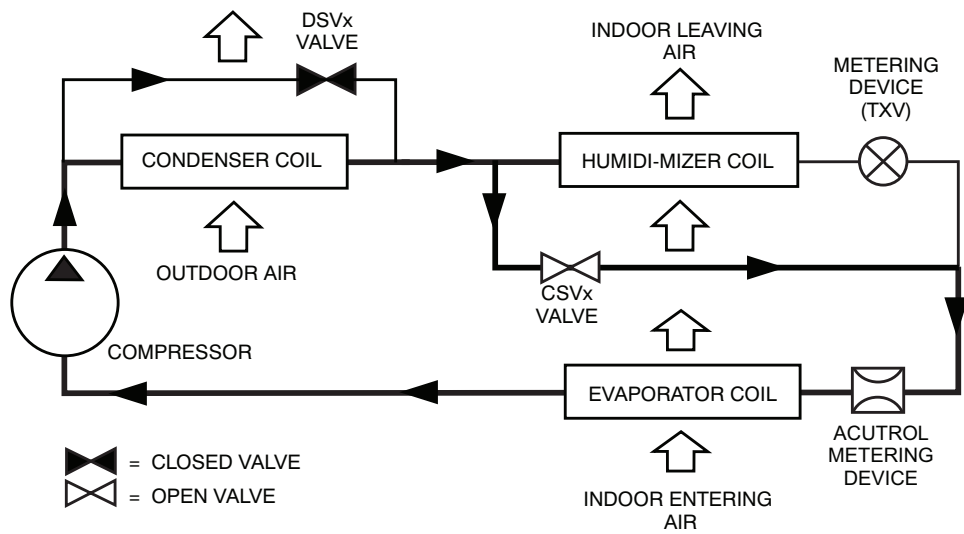

Fig. 74 - Normal Cooling Mode (Sizes 04 / 07 - Type 1) - Humidi-MiZer® System with Single Stage Cooling
Normal Cooling Mode: When there is only a single cooling demand with thermostat Y1 calling, the single circuit will operate in Normal Cooling Mode. The Cooling Liquid Valve (CSV) is Normally Open (NO) and energized. The Reheat Discharge Valve, DSV, is Normally Closed (NC) and remains closed during the Cooling Mode. See Fig. 74.
Normal Cooling Mode: When there is only a cooling demand (Thermostat Y1 alone or with Y2), one or both circuits will operate in Normal Cooling Mode. The CSV1 and CSV2 (on size 14, CLV1 and CLV2) valves are de-energized and open allowing liquid to flow around the Humidi-MiZer coil and directly to the unit's TXVs and Evaporator Coil. The Reheat Discharge Valves, DSV1 and DSV2, (on size 14, RDV1 and RDV2) are de-energized and remain closed during the Cooling Mode. See Fig. 74 for illustration of each circuit's operation.